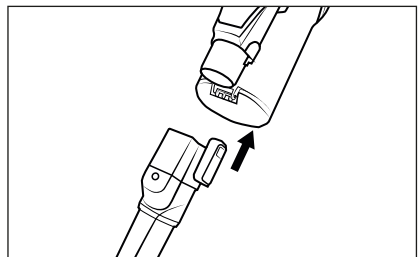

Fig. 14
- ◆ Push the accessory onto the suction pipe **23** or onto the suction opening of the appliance until it clicks into place (see Fig. 14). Make sure that the locking mechanism is in the correct position.